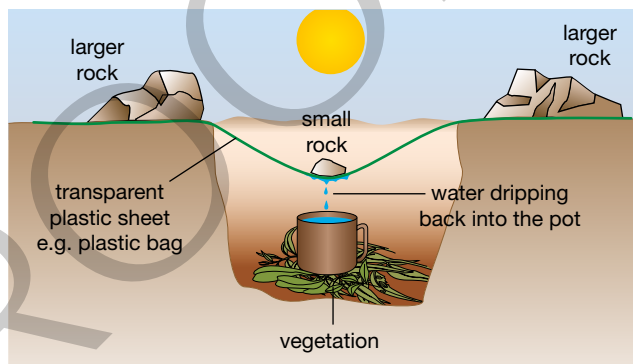

FIGURE 4.3.7
- Compare the 'bush still' shown in Figure 4.3.7 with distillation apparatus.